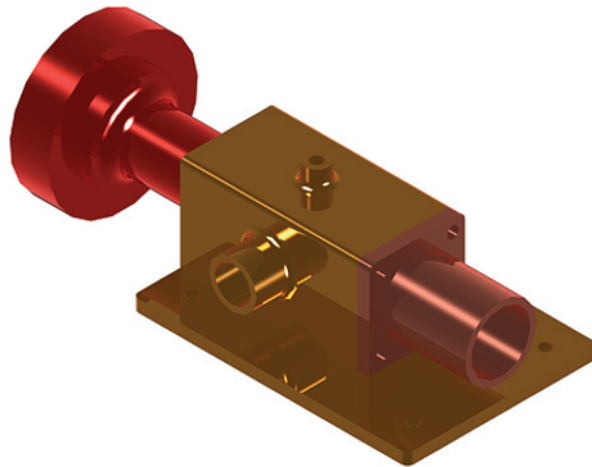

Fig. 18.30 Exercise 2
2. Working to the dimensions given in the orthographic projections of the three parts of this 3D model (Fig. 18.31), construct the assembled part as shown in the rendered 3D model in Fig. 18.30.